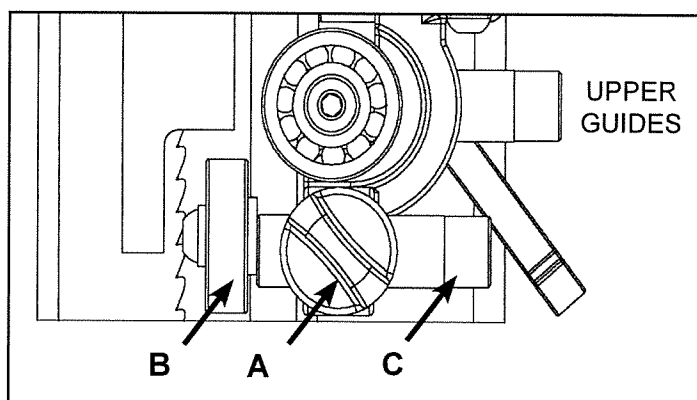
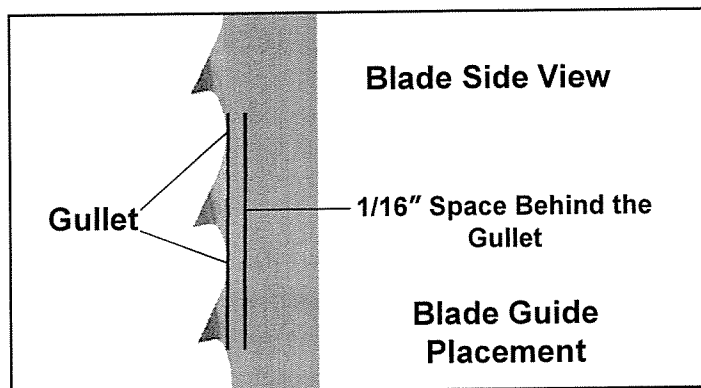
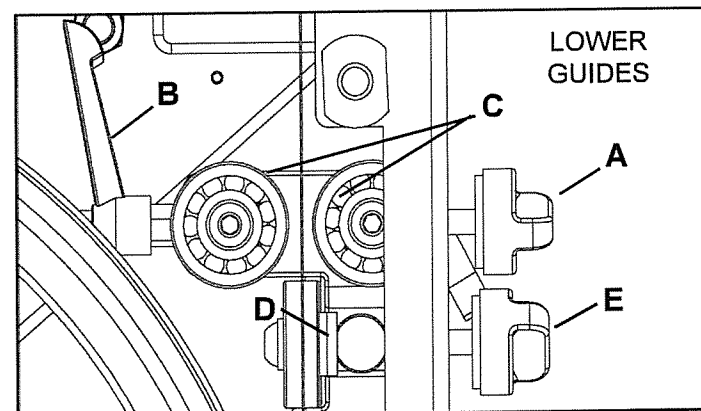

FIGURE 16
FIGURE 17
FIGURE 19
sides. First, loosen their side Lock Knobs (#26E, FIG. 16, A) by twisting them counterclockwise. To move the side guides (B) towards the blade, simply rotate the ends of the guide shafts (#22E, FIG. 16, C). Lock the guides in place by tightening the lock knobs clockwise. FIG. 16.
2. The guides should be approximately 1/16" behind the gullets of the saw blade. FIG. 17. If they need to be moved, loosen each Lock Knob (#26E, FIG. 16, C) and move the guide shafts (#22E, FIG. 16, C) in/out until the guides are properly positioned behind the blade gullets. Re-tighten the knobs when done.
1. First, loosen the right side Lock Knob (#26E, FIG. 19, A) and the left Clamp Handle (#25E, FIG. 19, B) by twisting them counterclockwise. To move the side guides (C) towards the blade, simply rotate the ends of the guide shafts (#28E, FIG. 19, C). Lock the guides in place by tightening the lock knob and clamp clockwise. FIG. 19.
2. The guides should be approximately $1/16$ " behind the gullets of the saw blade. FIG. 17. If they need to be moved, loosen each Lock Knob (#26E, FIG. 19, C) and move the guide shafts (#28E, FIG. 19, C) in/out until the guides are properly positioned behind the blade gullets. Re-tighten the knobs when done.
4. Adjust the rear bearing guide (FIG. 19, D) to be just clear of the back of the saw blade. Release the guide's Lock Knob (#26E, FIG. 19, E) and move the rear guide towards the blade by pushing the end of the Rear Guide Shaft (#27E). Tighten the handle when done.